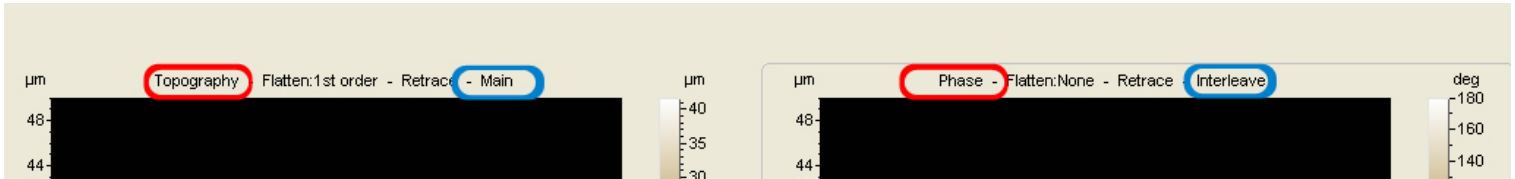

Figure 103 Realtime images settings for MFM with input channels set to Topography and Phase, scan modes set for Main and Interleave, respectively.
- 7 In the Realtime Images window (Figure 103), choose the two images to display **Topography** (input channel circled in red) with the **Main** scan mode (circled in blue) for one and **Phase** with the **Interleave** scan mode for the other. Set both images to **Retrace**.